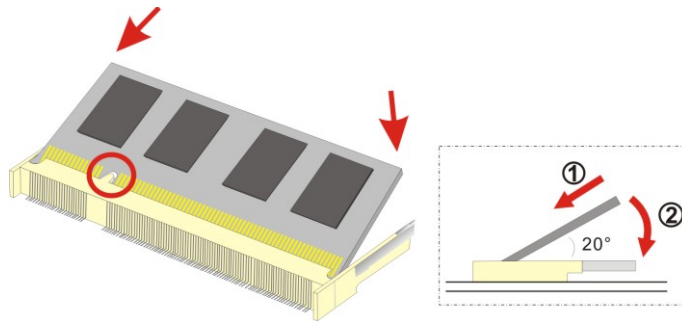

Figure 5-2: SO-DIMM Installation
Step 4: Align the new SO-DIMM with the socket. The SO-DIMM must be oriented in such a way that the notch in the middle of the SO-DIMM must be aligned with the plastic bridge in the socket (**Figure 5-2**).
Step 5: Push the SO-DIMM chip into the socket at an angle (**Figure 5-2**).
Step 6: Gently pull the arms of the SO-DIMM socket out and push the rear of the SO-DIMM down (See **Figure 5-2**).